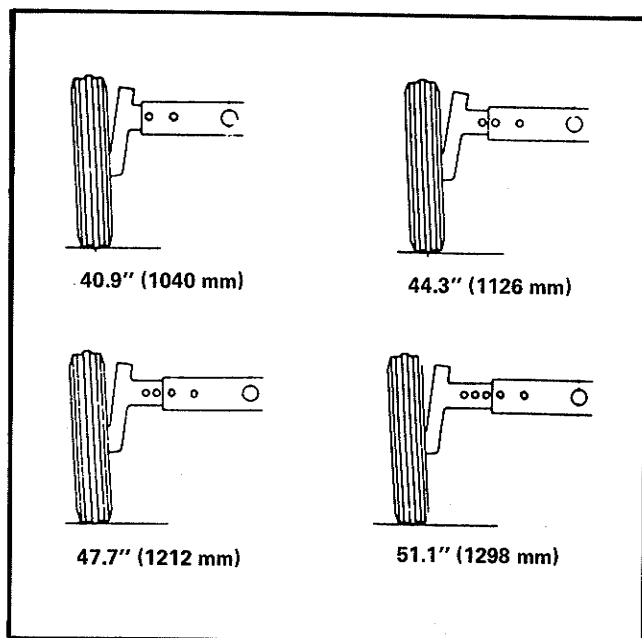

FIGURE 39 - 5030 Front Wheel Tread
The front wheels are assembled to the hubs with dished side of wheel turned inward at all times. The front axle is adjustable to give front wheel treads as shown in Figure 39.
3. Remove the two bolts holding the stub axle to axle and shift stub axle in or out as desired to position a, b, c, or d shown in Figure 39. Replace bolts with heads in the hexagonal recessed holes from which they were removed, and tighten nuts securely.